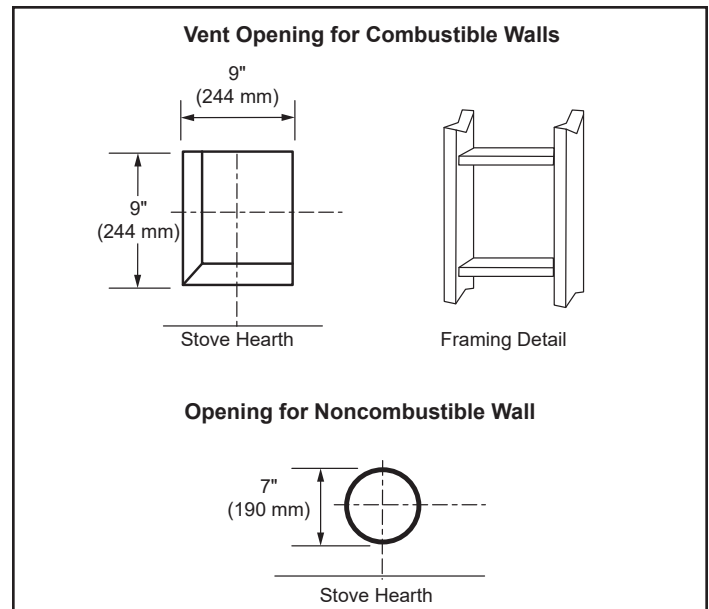

Figure 3.11 - Locate Vent Opening on Wall
1. Locate vent opening on the wall. It may be necessary to first position the stove and measure to obtain hole location. Depending on whether the wall is combustible or noncombustible, cut opening to size, Figure 3.11 (For combustible walls first frame in opening.) Combustible Walls: Cut a 9" H x 9" W (244 x 244 mm) hole through the exterior wall and frame as shown, Figure 3.11. Noncombustible Walls: Hole opening must be 7" (178 mm) in diameter.